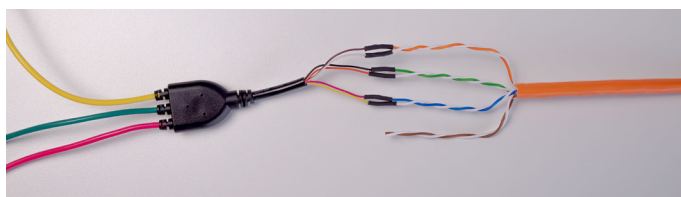

Fig. 45 Extension of the measuring line 5 to a maximum of 100 metres
- If a UAE socket is used, it must not be assigned according to TIA-568A/B. The wire pairs must be laid side by side as shown in Fig. 45.